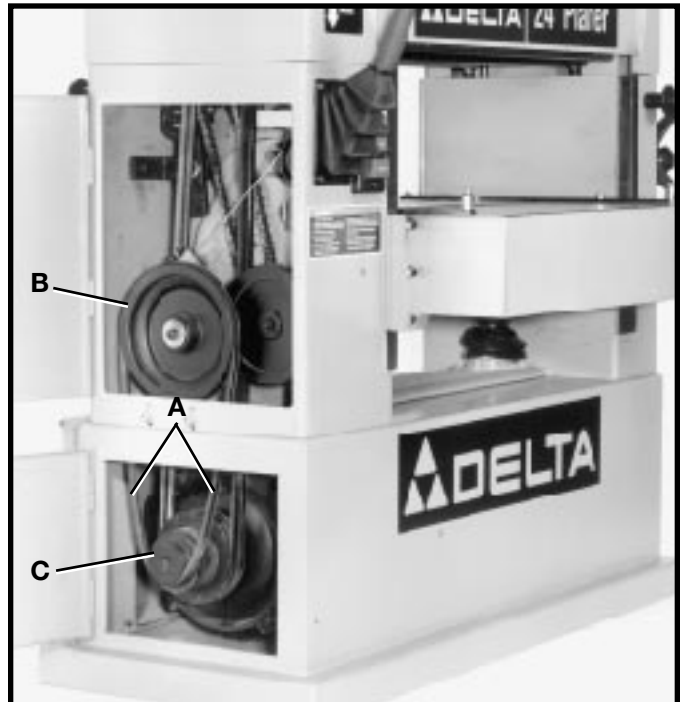

Fig. 30
Proper tension on the feed roll belt is obtained when there is approximately 1/2" deflection, using light finger pressure on feed roll belt (A) Fig. 30. midway between pulleys (B) and (C), with feed roll lever (D) engaged. If an adjustment is necessary, proceed as follows:
1. **DISCONNECT THE MACHINE FROM THE POWER SOURCE AND ENGAGE FEED ROLL LEVER (D) FIG. 30.**